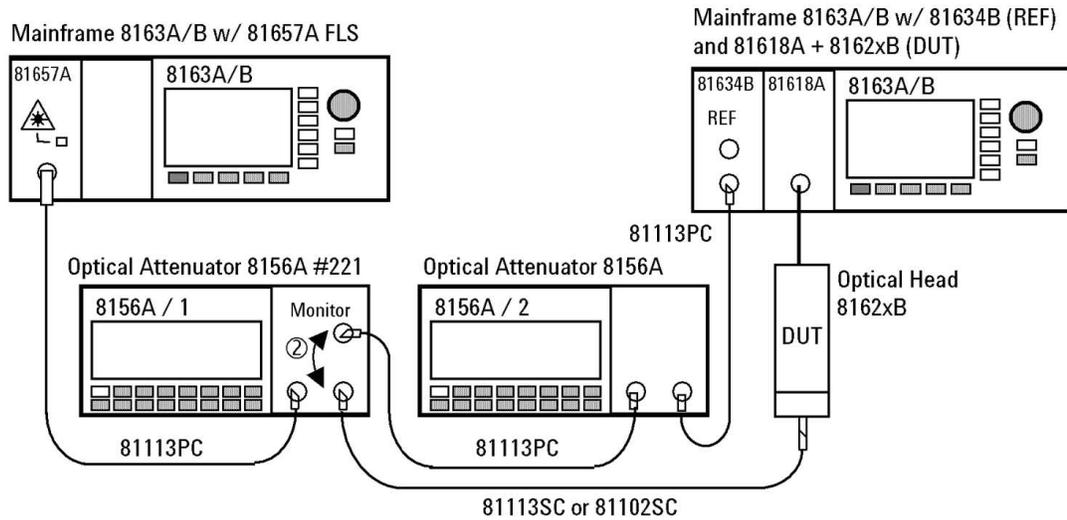

Figure 9 Measurement Setup for Power Linearity
- 3 Setup the equipment as shown in Figure 9. Disable both attenuators and enable the laser source, where the source wavelength is chosen to 1550 nm. If you are using the 81657A, move to the wavelength parameter, [λ], press *Enter*, select the longer wavelength source (1550 nm nominally), and press *Enter*.